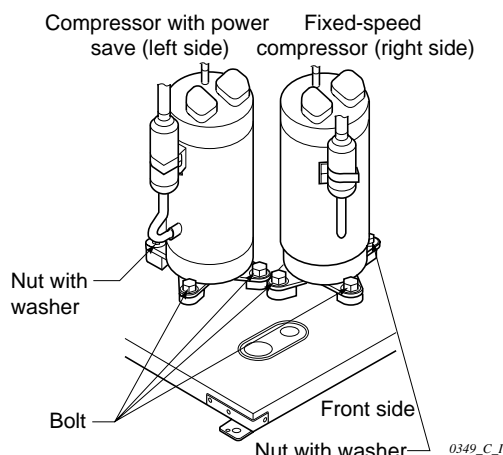

Fig. 2
- (8) Remove the noise absorbing material packed around the compressor.
- (9) Remove the compressor terminal section cap and disconnect the power terminals and internal terminals.
- (10) Remove the crank case heater.
- (11) Remove the 2 bolts (front side) shown in Fig. 2 and the 1 nut with washer (rear side).